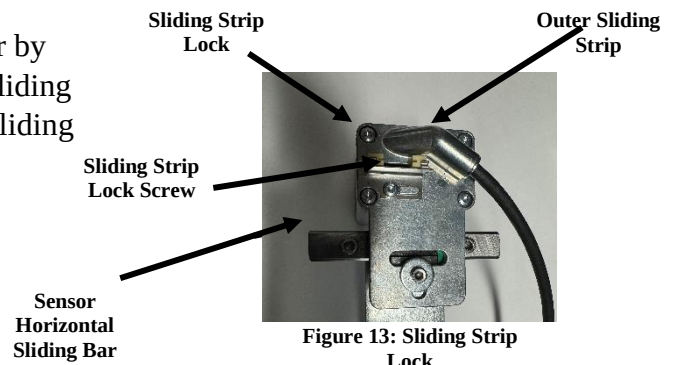

Figure 13: Sliding Strip Lock
17. Remove the outer sliding strip from the sensor by loosening the sliding strip lock screw on the sliding strip lock and either pulling back the lock or sliding it to the side. Figure 13